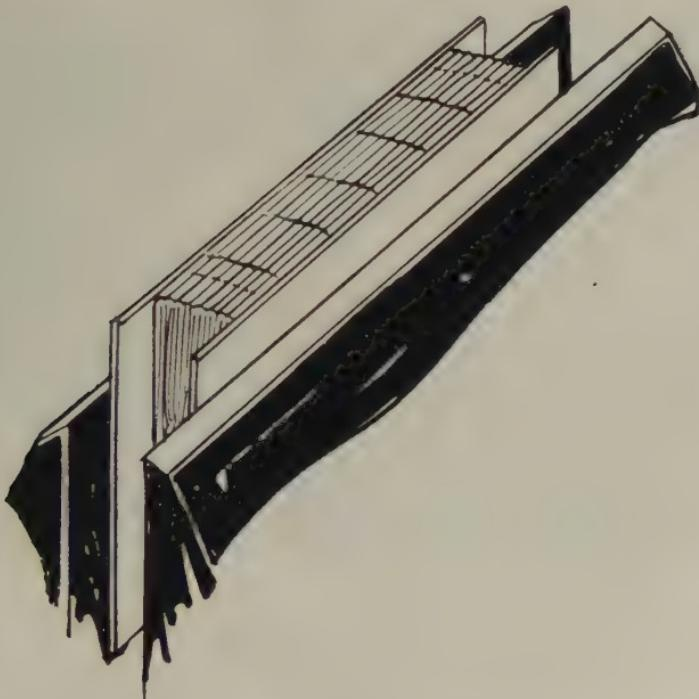

FIG. 200—BOOK CLAMPED IN JOB BACKER READY FOR GLUING-
3. Place book, *back edge up*, in job backer or finishers clamp and screw up snugly, leaving book above jaws of press or cheeks of clamp a convenient distance. (Fig. 200.)